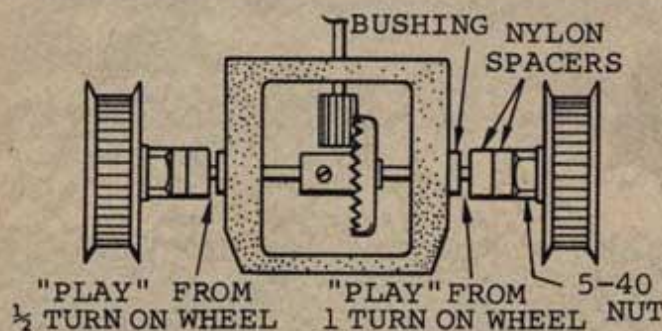

Fig. 3 - Exaggerated Bottom View
4. Proper gear mesh is very important. Never bottom the teeth — gears set up too tightly always result in a poor running car. To correctly mesh your gears, bottom the gear teeth and tighten both 5-40 axle nuts and wheels up against the nylon spacers. Then back off the wheel 1/2 turn on the side of the axle closest to the hub side of the crown gear. Now jam the 5-40 nut against the wheel to lock it in place. Back off the wheel one turn on the other side of the axle and lock in place with nut. (See Figure 3.) Gear should now turn quite freely in a positive manner. Rapid gear wear will result if only the tips of the gear teeth meet. Maximum performance is obtained when the gears contact each other just enough to make positive transmission.